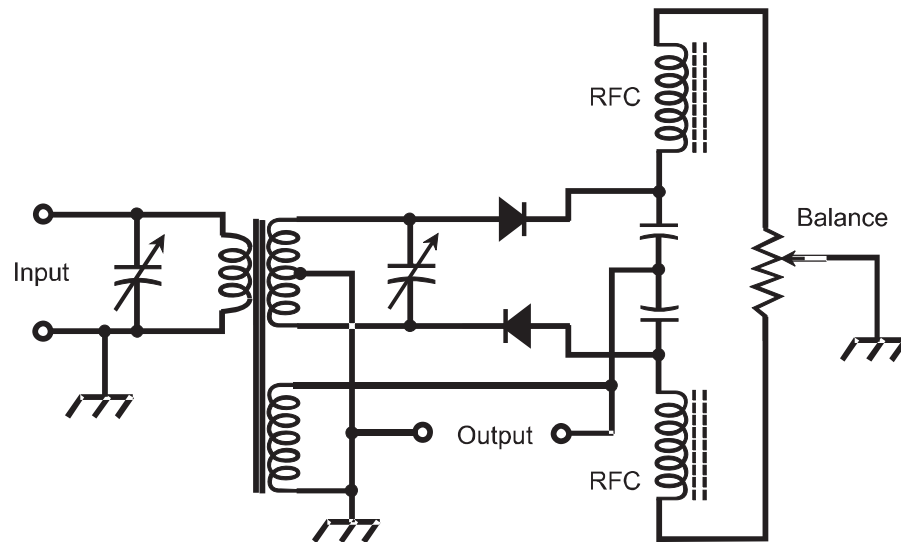

Fig. 10-5C. An FM ratio detector.
- **Ratio detector:** This FM detector is a discriminator with a built-in limiter. The original design was developed by RCA (Radio Corporation of America), and is still used today in some receivers. A simple ratio detector circuit is shown in Fig. 10-5C. The “balance” control is set for the best received signal quality.